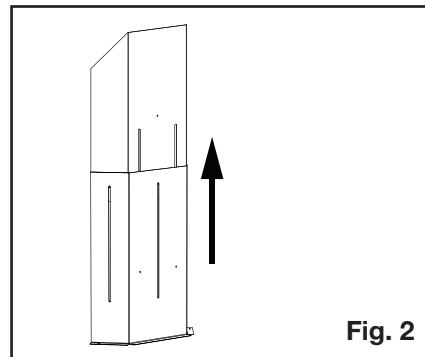

Fig. 2
2. Adjust vent shield to its maximum vertical (**Figure 2**).